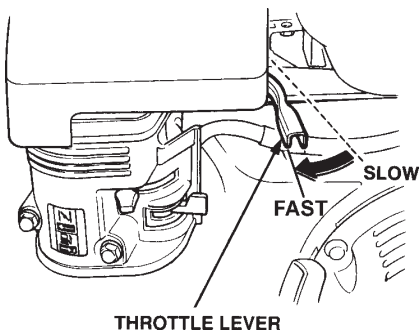

Figure 18. Throttle lever Lever
3. Move the throttle lever (Figure 18) away from the slow position, about 1/3 of the way toward the fast position.